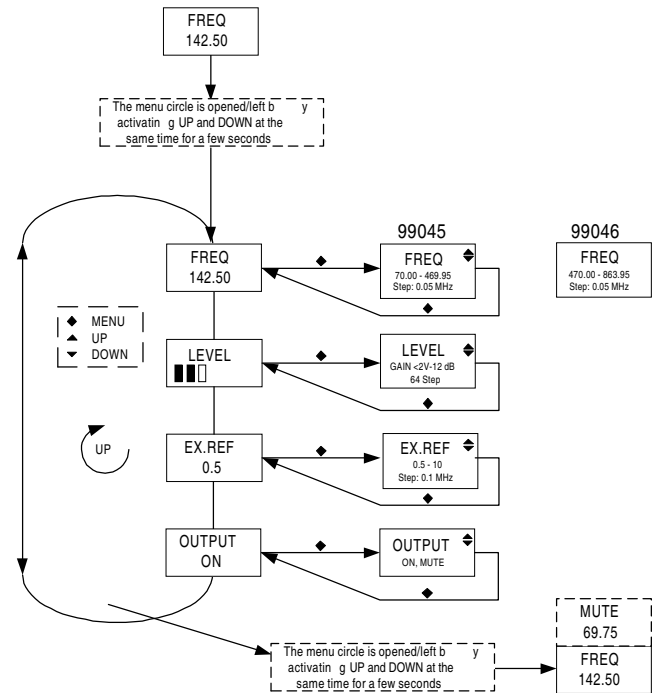

Fig. 4 Menu structure
2. The pilot generator will now be in the menu item **FREQ** as illustrated in fig. 4.
5. Then continue to the next menu item with UP or DOWN, and repeat items 3 and 4.
The menu structure is shown in fig. 4.